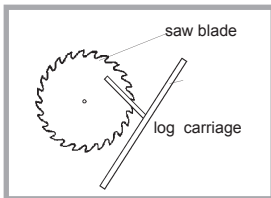

Figure 3
- Fit the new blade on the shaft. Note direction of rotation. All tools must always work against the feed direction that is revolutions must occur towards the operator's station (see fig. 3).